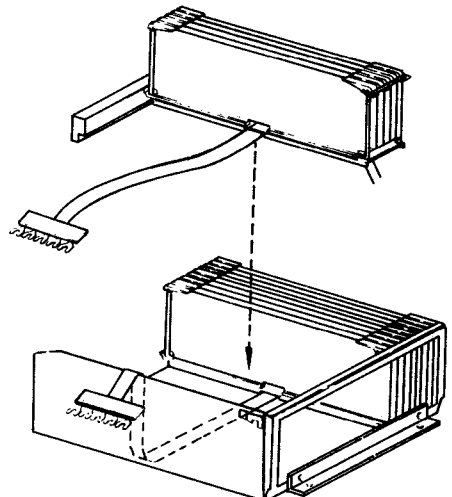

Fig. 51
- Step 10 — Install controller logic into module frame (Fig. 51).